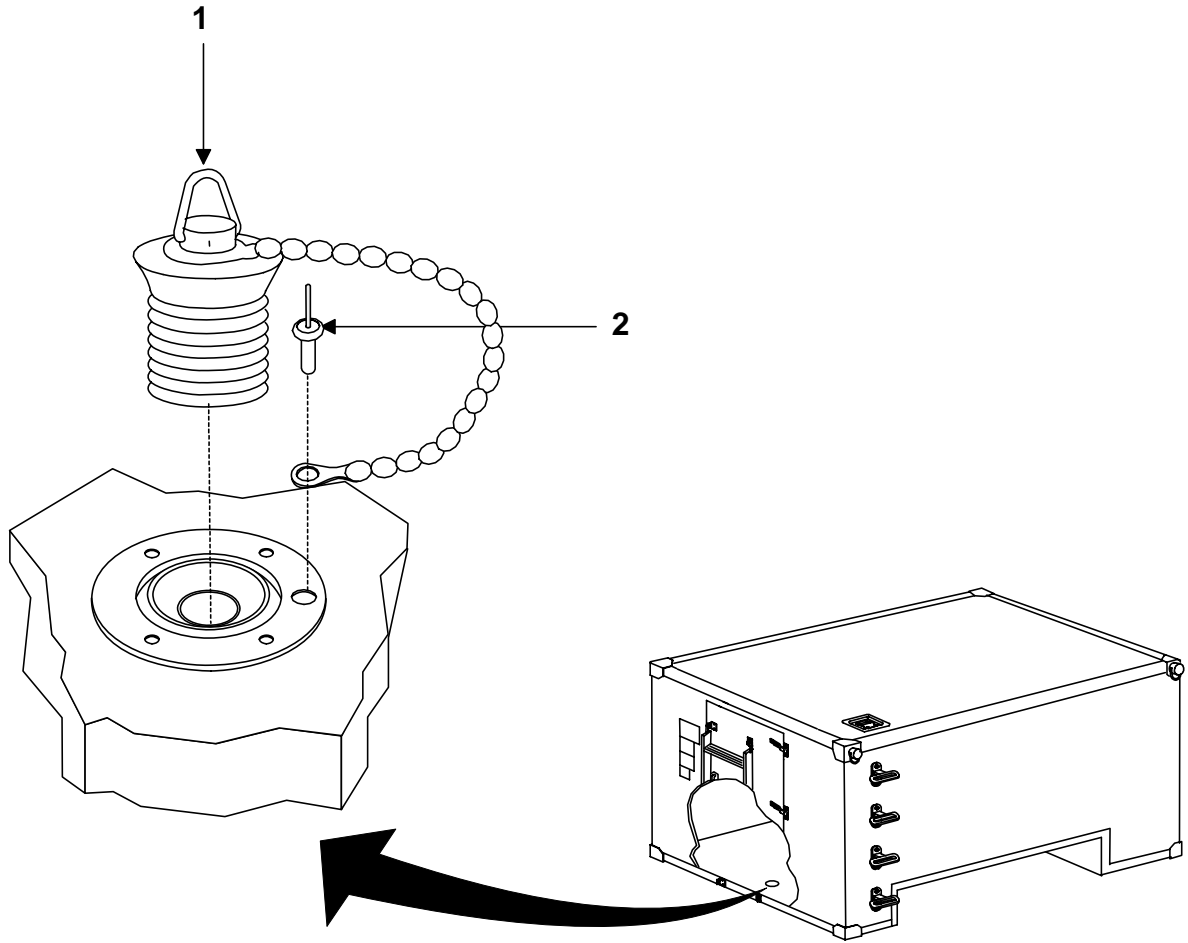

Figure 1. Drain Plug.
1. Using a drill, carefully drill out the rivet (figure 1, item 2) securing chain to floor. Refer to WP 0033 00 for direction on rivet replacement.
2. Remove stopper, waste drain and chain (figure 1, item 1).
1. Install stopper, waste drain (figure 1, item 1) into pan.
2. Install rivet (figure 1, item 2) securing chain to floor. Refer to WP 0033 00 for rivet replacement.